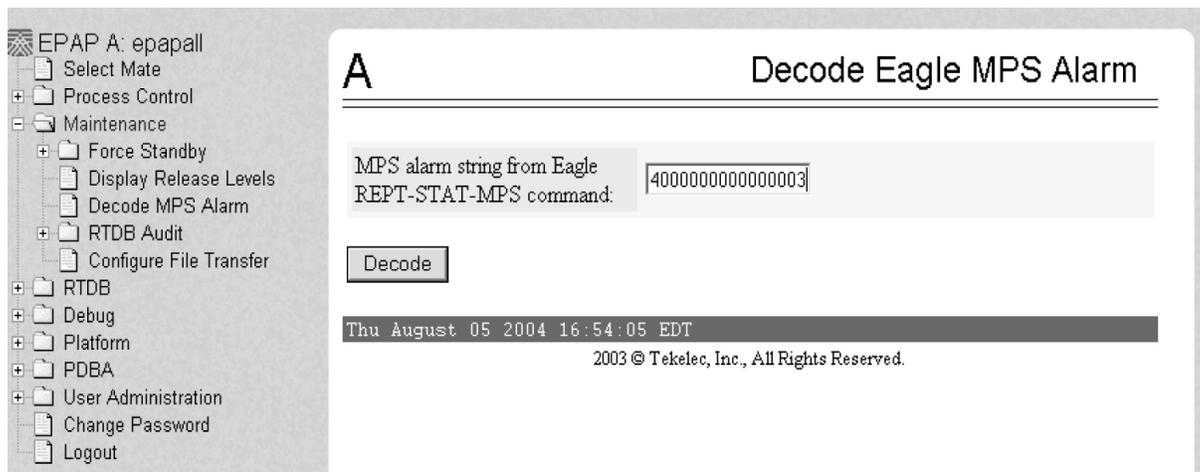

Figure 27: Decode MPS Alarm Screen
3. Enter the 16-digit alarm string into the window on the **Decode MPS Alarm** screen, as shown in *Figure 27: Decode MPS Alarm Screen*.